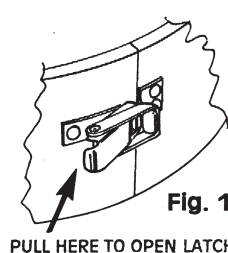

Fig. 1
2. Remove the lens by opening the latch on the stainless steel trim ring (Figs. 1 and 2). *Please note how latch opens so that reassembly is easy. Also, there are two rubber gaskets under the lens that are needed to make the light waterproof.*
10. Secure lens back in place. Be sure that the two (2) rubber gaskets are properly positioned to prevent water from entering into the light, which will protect the motor and components. Replace stainless steel trim ring and close latch (Fig. 1 above).